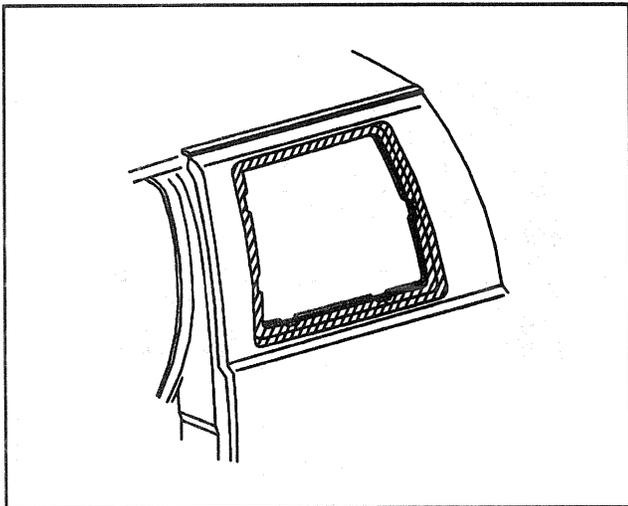

Figure 18—Window Frame
- Apply a light hand pressure to the glass to wet-out the adhesive and to bond the glass to the pinchweld (Figure 18).